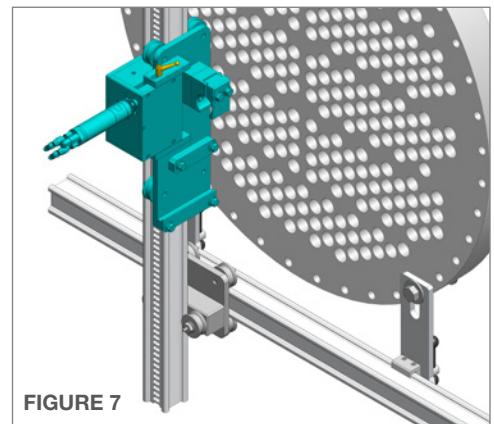

FIGURE 7
- Loosen the **Quick Adjust Handle** and pull the gearbox away from the carriage plate. This will allow the **Vertical Drive Carriage** to slide onto the rail without pneumatic power to rotate the drive. Center the carriage on the vertical rail and push the gearbox back toward the carriage plate. This will engage the gear into the rail slots. Verify the gear is engaging the slots correctly and tighten the quick adjust handle. **(Figure 7)**